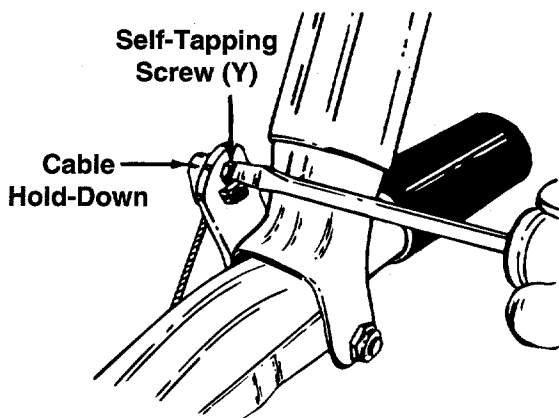

FIGURE 8.
17. Pull the cable upwards to obtain slack, lift the clutch grip, and insert the cable hold-down into the clutch grip. Secure with self-tapping screw (Y). See figure 8.